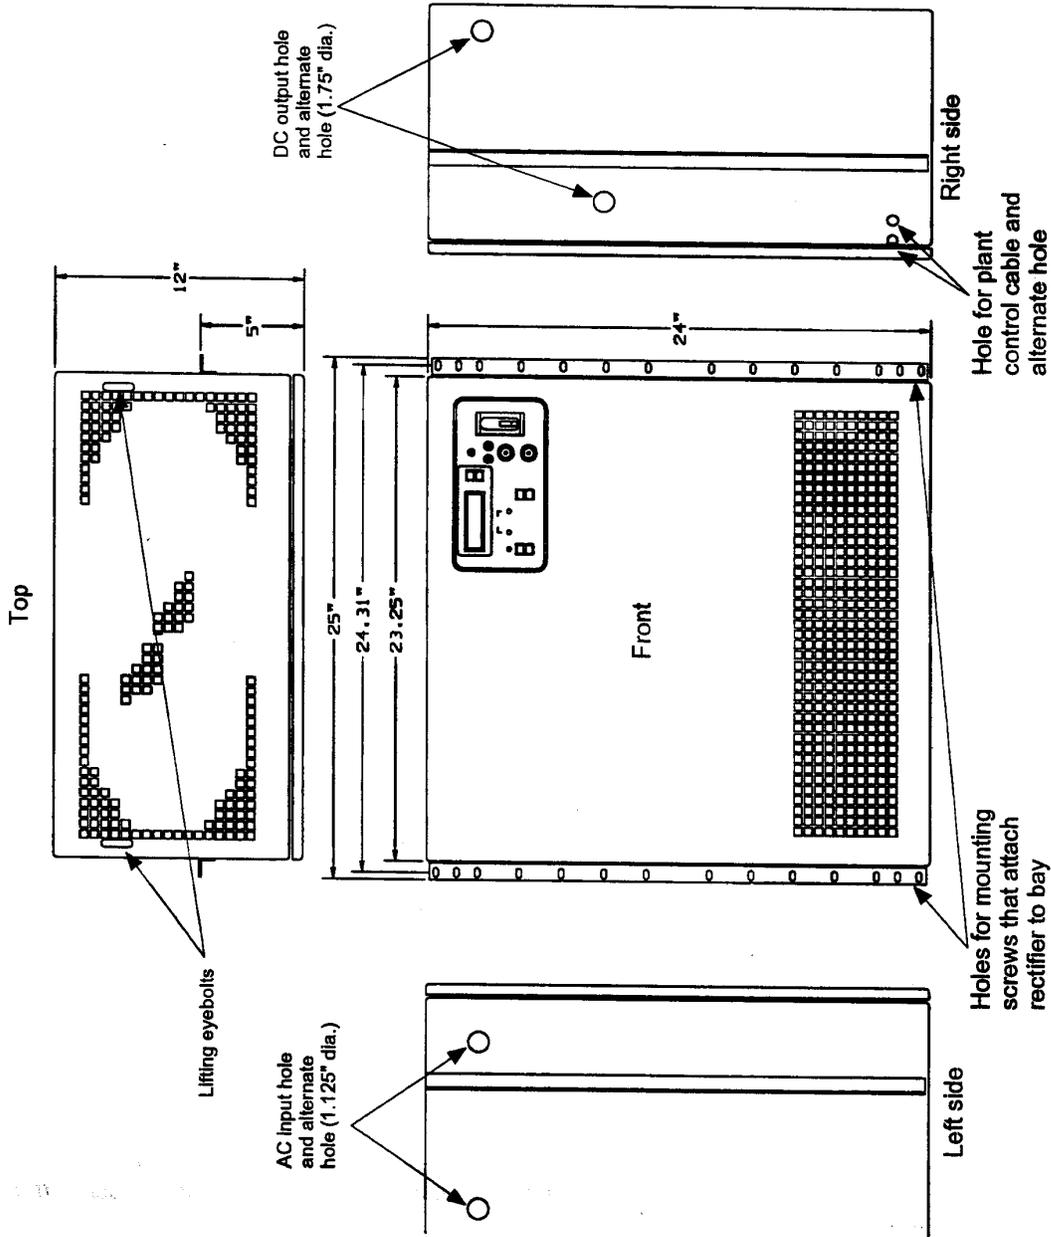

Figure 5-1: Four Views of the J85503A-1 Rectifier
Figure 5-1 shows the ac input conduit hole and alternate hole and termination points for the ac input wires and the “green wire” ground. This wire is the ac equipment ground (AC EG), also known as frame ground (**FRAME GRD**).
Figure 5-1 shows the dc output conduit hole and alternate hole. Figure 5-2 shows the dc output wire termination points. Table 5-B specifies the dc output cable size, T&B connectors, and crimp die. Also see note 57 on J-drawing, J85503A-1.
Use Figures 5-1, 5-2, and 5-3 as references for this section.
Use Figures 5-1 and 5-2 as references for this section.
1. Route the plant control cable from the controller chassis via the cable racks to the rectifier, then through the opening provided for this cable (see Figure 5-1).